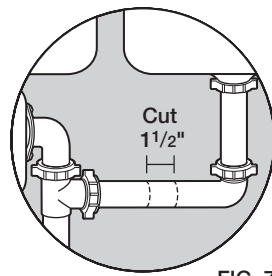

FIG. 7
1. Measure the midpoint on the horizontal waste ell and cut out 1 1/2" of tubing. (See Fig. 7)